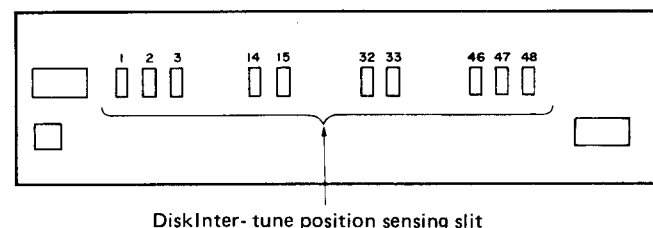

Fig. 2
- 3) When the waveform is sliced by the dot line (a) via the slice circuit, the waveform shown as V_2 in Fig. 2 is obtained.